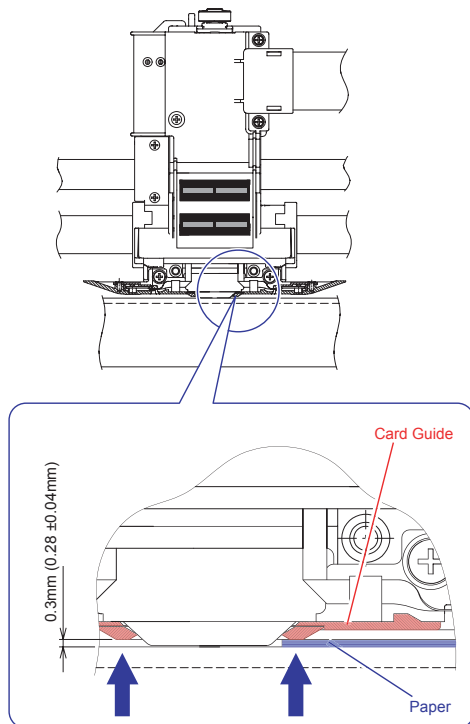

Figure 5-8. Card Guide Mount Position Adjustment
3. Insert three sheets of paper into the gap between the card guide and the platen as shown in Figure 5-8, and lightly push the card guide against the paper. Then, secure the card guide in position by tightening the two screws.